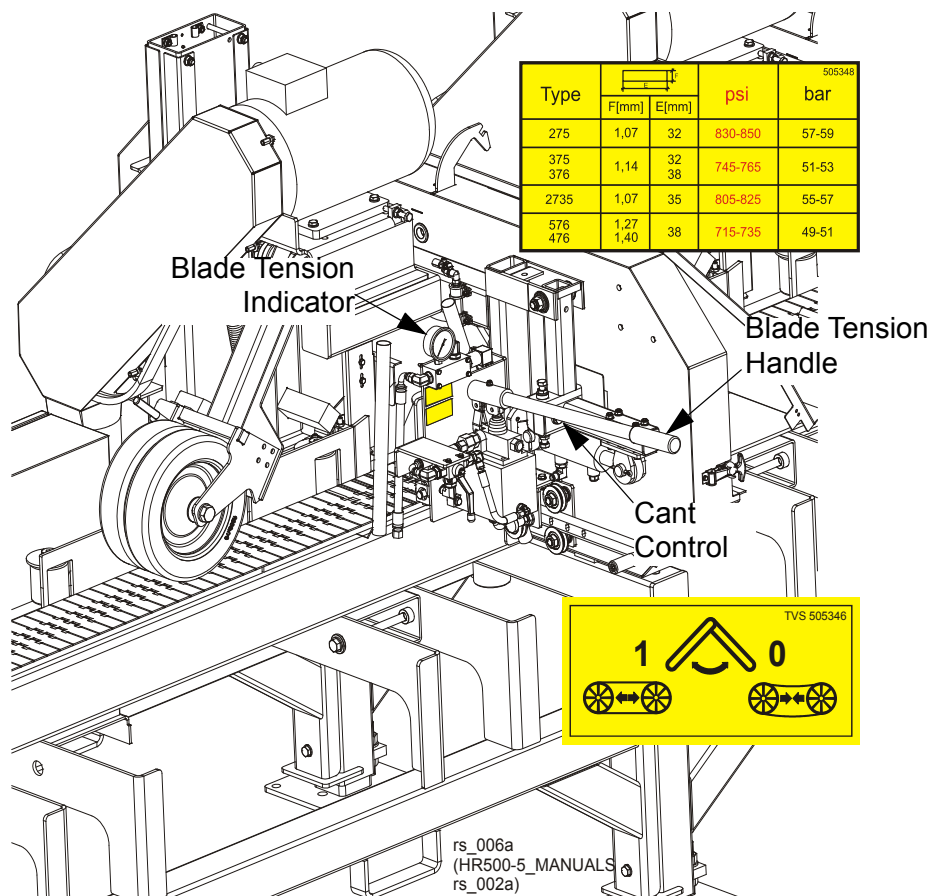

FIG. 2-9
See Figure 2-9. Place the provided handle in the blade tensioner socket and secure with a screw. Set the tensioner valve to the "1" position. Move the tensioner handle up and down to tension the blade. Depending on the installed blade type, tension the blade to the value shown on the decal located below the blade tension valve. The values "F" and "E" are: blade thickness and blade width. Check the blade tension occasionally when adjusting the cant control or while cutting and adjust if necessary. As the blade and belts heat up and stretch, the blade tension will change. Also, ambient temperature changes can cause tension to change. To release the blade tension, set the tensioner valve to the "0" position.
5. Use the cant adjustment bolt, shown in **Figure 2-9**, to adjust where the blade travels on the blade wheels.